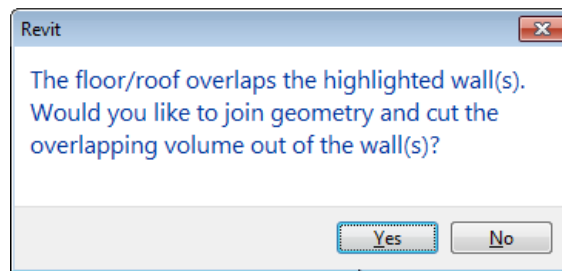

Figure 7-30
- If the slab overlaps the walls, you can join the slab to the walls as shown in Figure 7-30. This can also be done at a later time.